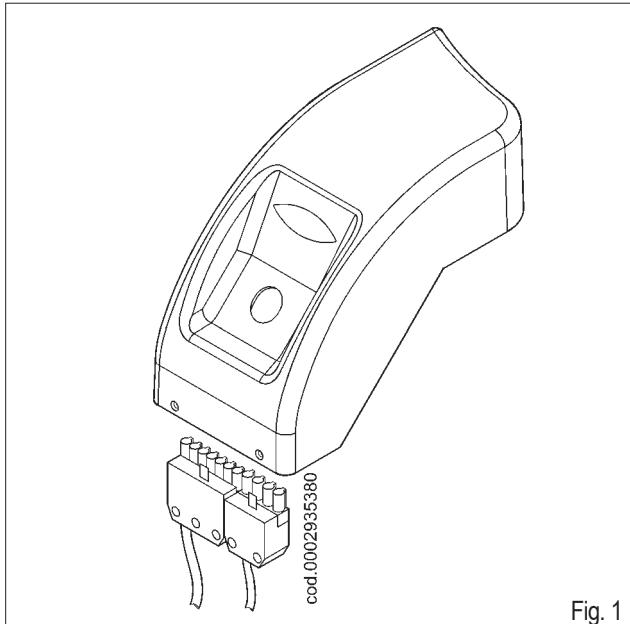

Fig. 1
- Following the instructions detailed in the "Maintenance" paragraph, extract the mixer assembly and remove the screw (1) which connect the unit's forward movement rod (2) to the gas delivery pipe (3). Remove the screw (5) which connects the gas mixer (6) to the pipe (figure 1).
- Turn the bend coupling through 180° (4) and the mixer (6), in such a way that the inlet gas is turned upwards (figure 1). Again fix the mixer and the unit's forward movement rod to the gas delivery pipe.
- Insert the 7 and 4 pole plugs for version "P", in the appropriate sockets located below the electrical panel base as shown in figure 1.